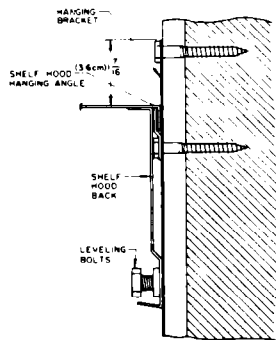

Figure 14
6. Replace front panel after microwave is installed and leveled using leveling bolts as shown in Figure 14.
provided on the lower left and right hand sides of the hood until the unit is level. (Figure 14) Use a level.